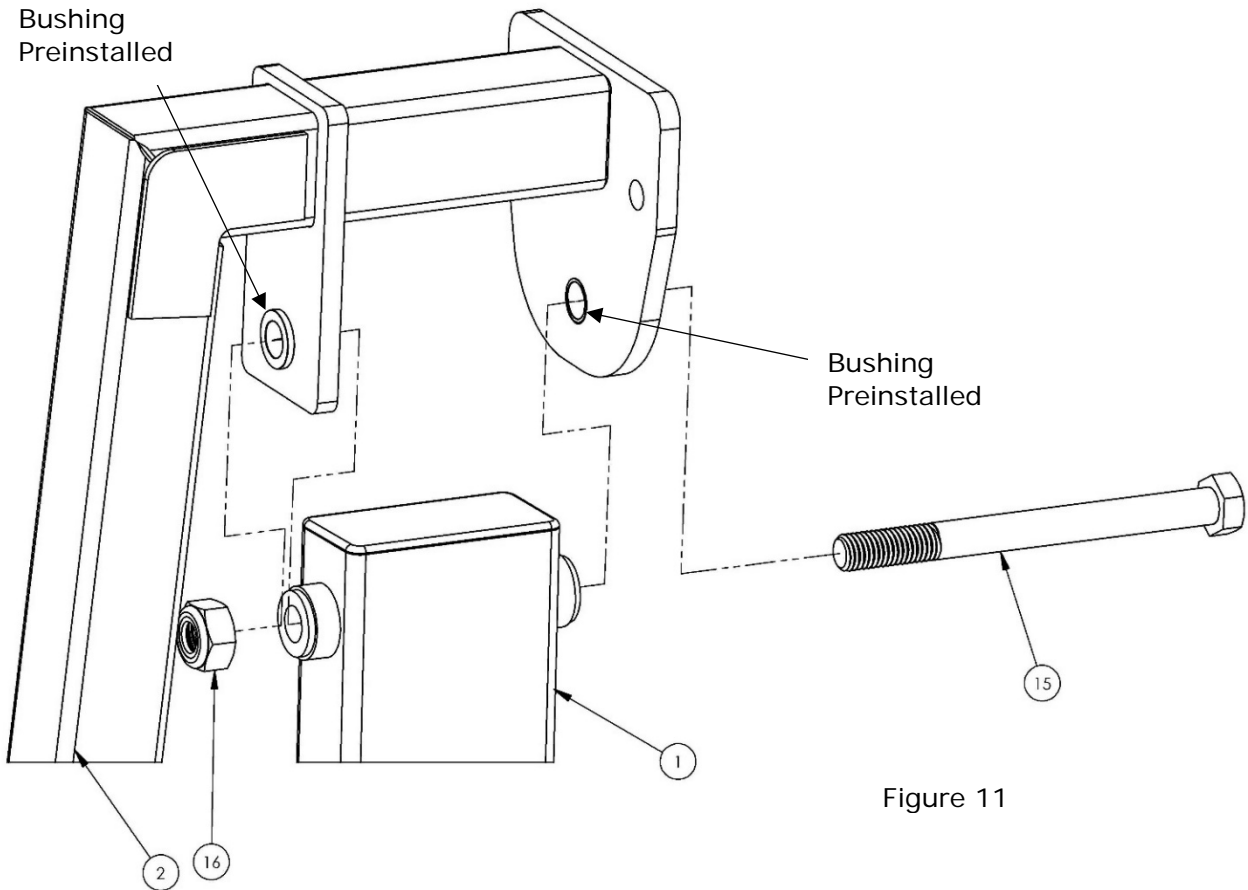

Figure 11
14. Install the lift seat arm to the multiLift2 assembly by using Hardware Kit 580-7000 as shown in Figure 11: